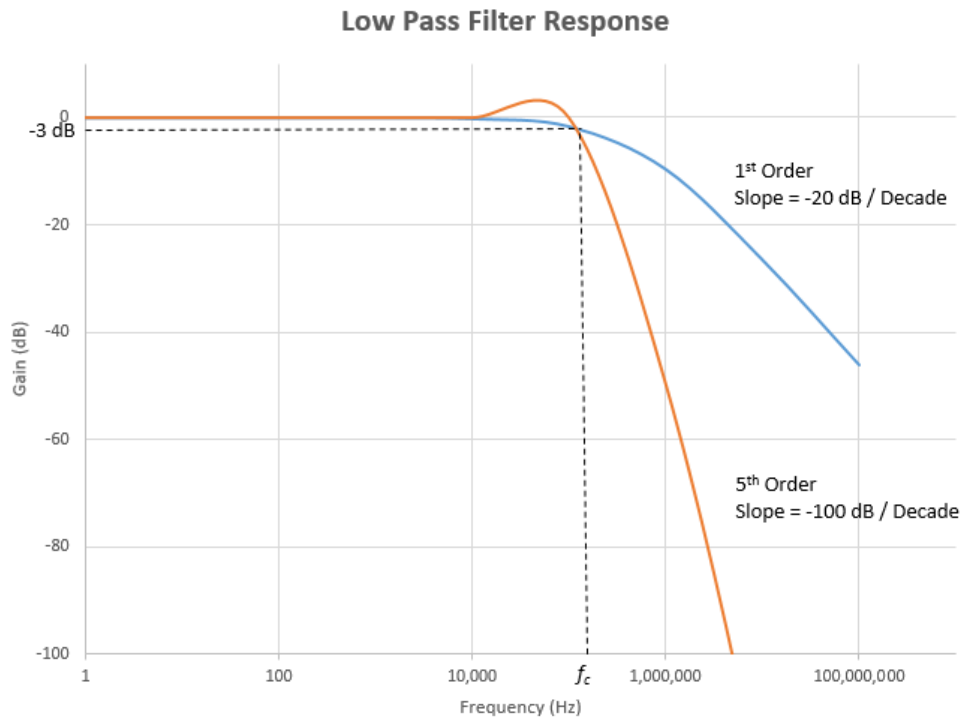

Figure 4.2. Low Pass Filter Response
When an ADC is used to sample real time data, it is important to limit the frequency content of the input signal in order to maintain fidelity of the signal that is being processed. Typically, a low-pass filter is used with corner frequency (f_c) set to the Nyquist frequency which is half the sampling frequency (f_s). Signal processing applications often utilize a multiple order low-pass filter (such as a fifth order or more) to effectively block frequency content above f_c . The discussion of such filters is beyond the scope of this technical note. Instead, a single-order resistor-capacitor (RC) low-pass filter is discussed. RC low-pass filters attenuate frequency content above f_c at the rate of -20 dB/decade as shown in Figure 4.2.